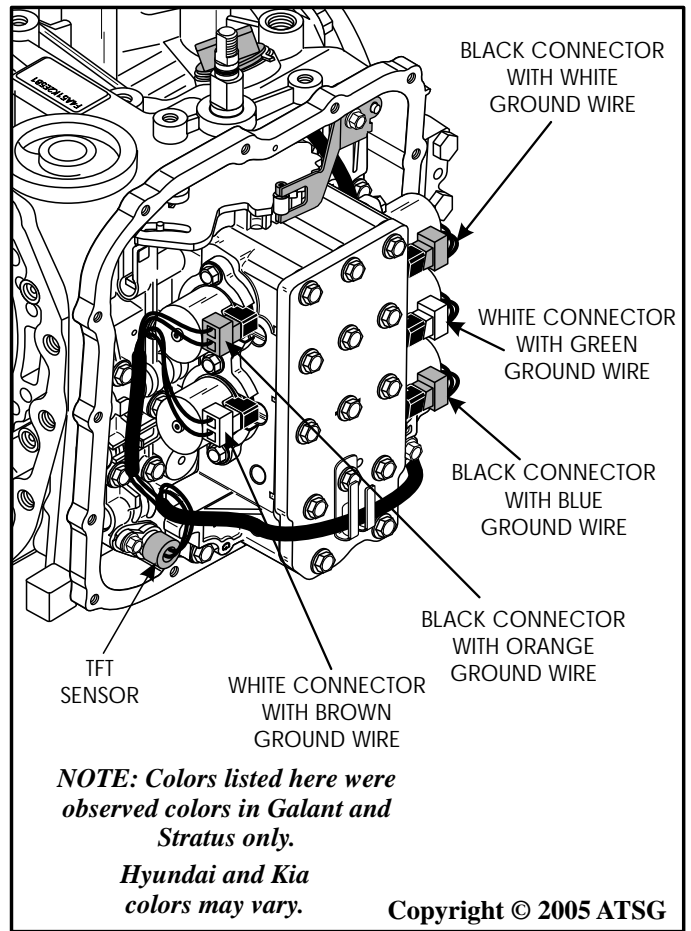

Figure 215
127. Connect the internal harness connectors to the individual solenoids, and connect the temp sensor, as shown in Figure 215.
**Note:** The colors shown in Figure 215 were observed on Mitsubishi Galant and Dodge Stratus. Hyundai and Kia colors may vary.